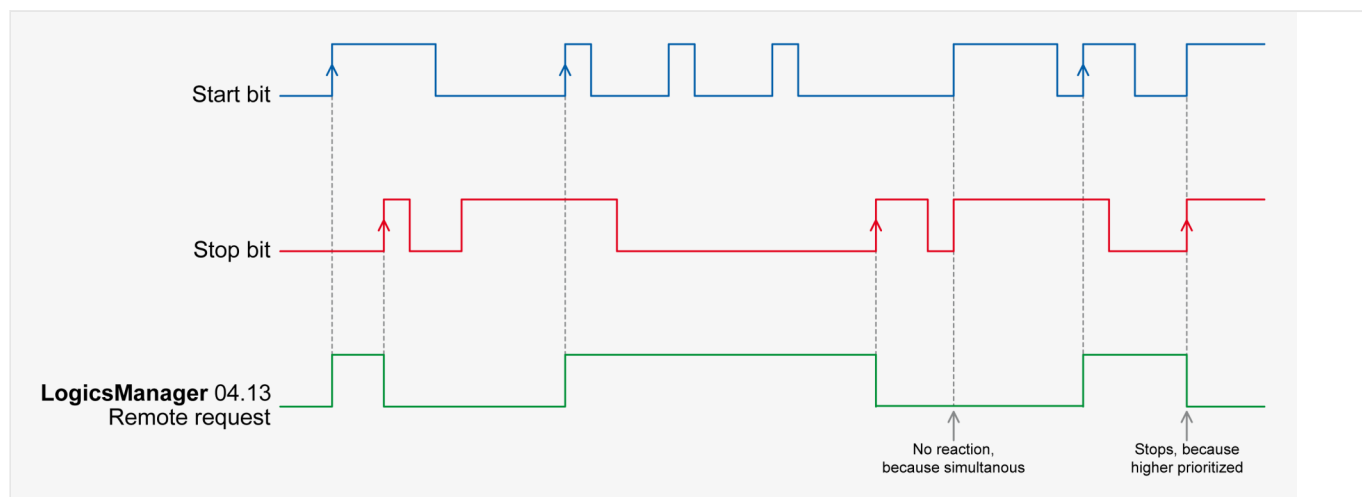

Fig. 239: Command variable
- The command variable "04.13 Remote request" changes to "0" (low) if the stop bit (ID 503, bit 1) changes from "0" to "1" (➡ Fig. 239).